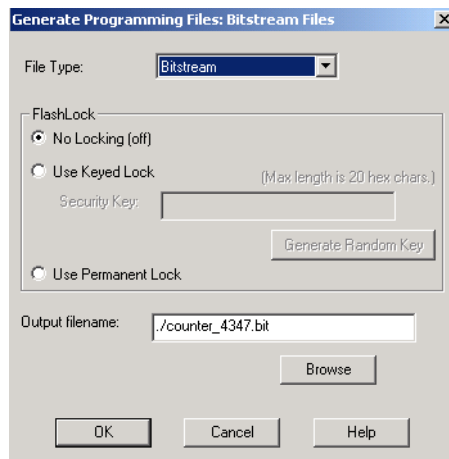

Figure 10-3. Bitstream Generation Dialog Box
1. In the Tools menu, click **Bitstream** or click the **Bitstream** button in the Design Flow window. This displays the Bitstream dialog box (as shown in Figure 10-3).